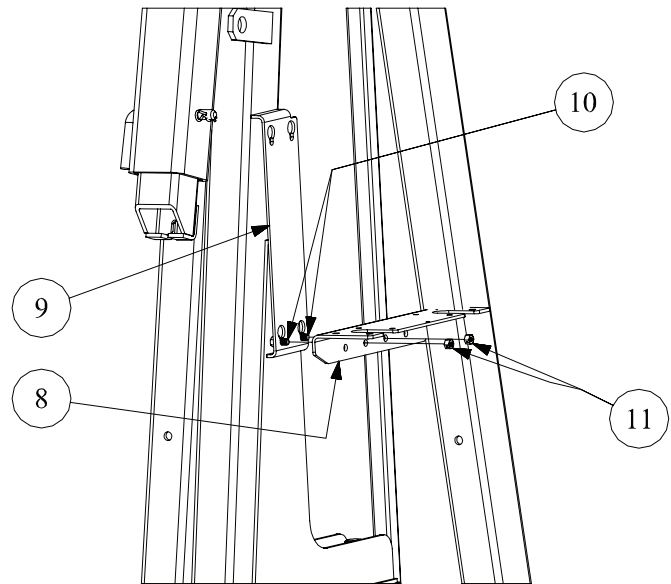

Figure 4
1. Attach the pump bracket [#8] to the bracket [#9] on the side of the crane using two 3/8" x 3/4" flange head bolts [#10] and two 3/8" nuts [#11] as shown in Figure 4. Be sure to attach the pump bracket [#8] to the bottom set of keyhole slots in the bracket [#9].